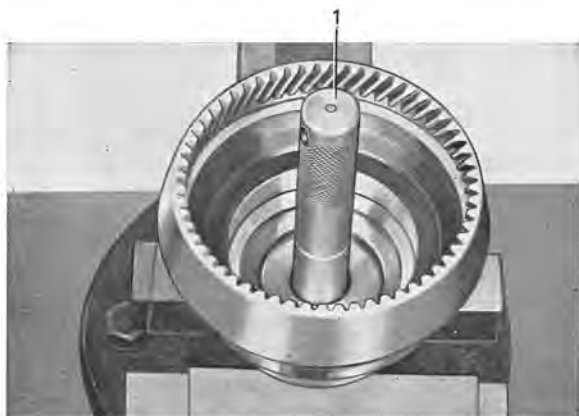

Fig. 4-51. Fitting bush, output shaft
1. Fit the bush on the output shaft with drift 2417, see Fig. 4-51. Press the front bearing to the output shaft with drift 2412.